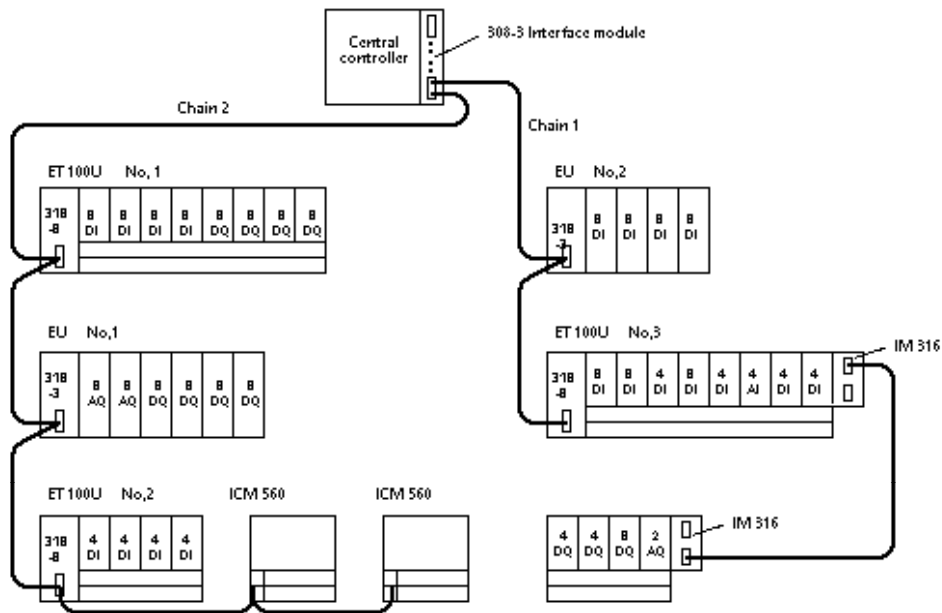

Figure 3-7 Module Configuration for Calculating the Transmission Time
- There are three ET 100Us connected to the 308-3 interface module represented in Figure 3-7.